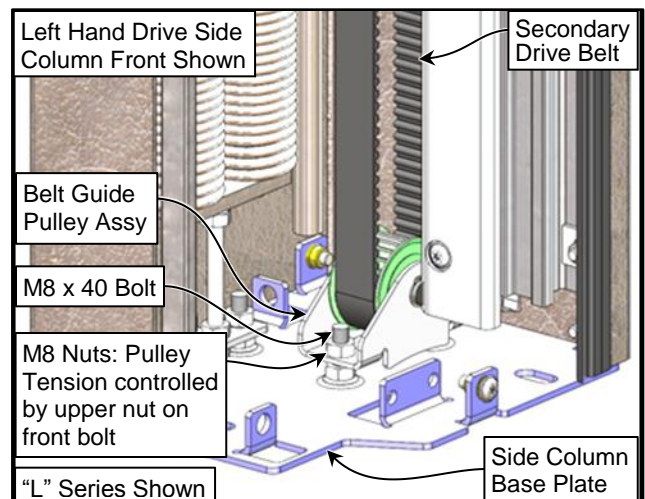

Figure 64
6. Tension is released and the guide pulley at the bottom of the side column can be removed. Remove the nut from the front mounting post and loosen the rear nut to remove the guide pulley. (See Figure 64)